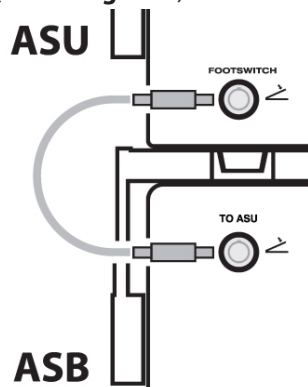

Figure 5: Connecting Footswitch Interface Cable (ASU/ASB back panels)
4. Connect the Footswitch Interface Cable (A001466) between the Footswitch Receptacles (9) on the back panel(s) of the ASU and ASB until a click is audible (refer to **Figure 5**).